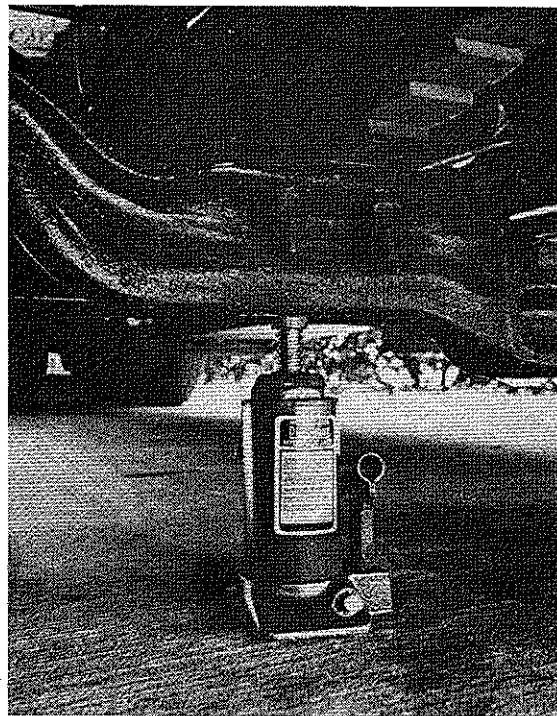

Figure 8-2. Locating Tire Jack
6. Place jack under spring pad and raise jack slightly until securely in place. See figure 8-2 for location of typical jacking points.